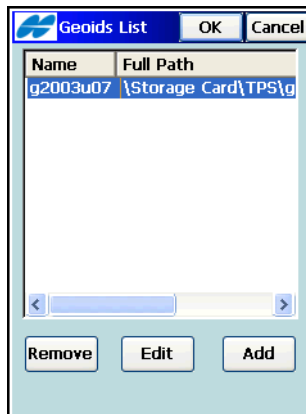

Figure 4-91. Geoid List
1. On the **Geoid List** screen, which is initially empty, press the **Add** button (Figure 4-91).
3. Press **OK** to return to the **Geoid List** screen (Figure 4-91 on page 4-71) with the geoid file added. This list corresponds to the Geoids drop-down list in the **Coord System** screen.